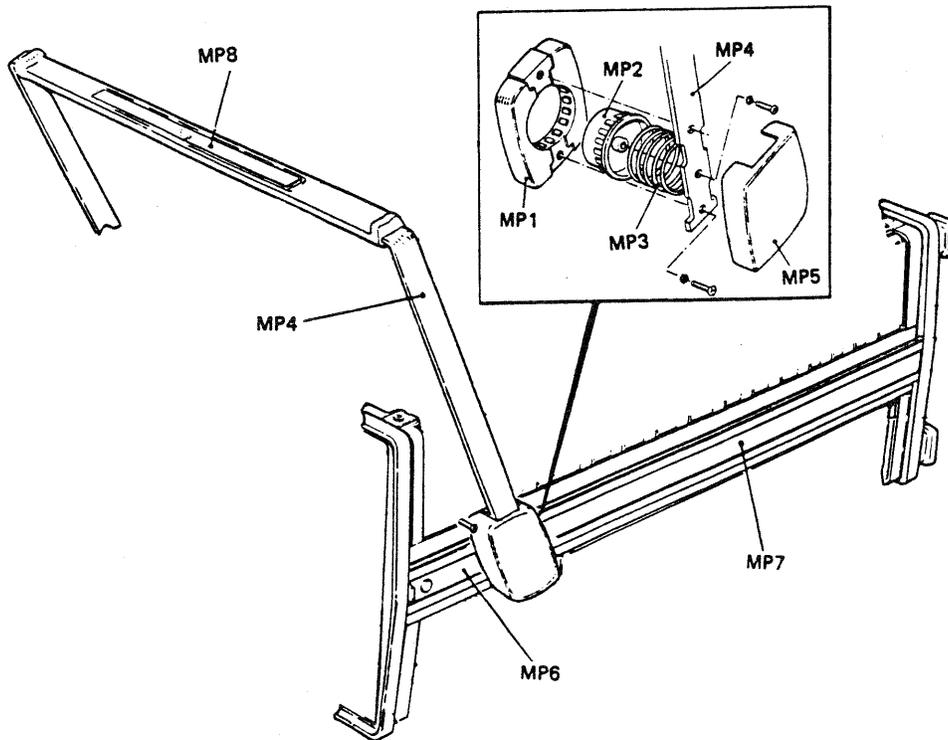

Figure 1 Hardware Details
2. Referring to Figure 1, remove the push-fit hub cover (MP5) from both sides of the instrument. (Finger pressure only is required to unclip MP5.) Discard the hub covers.